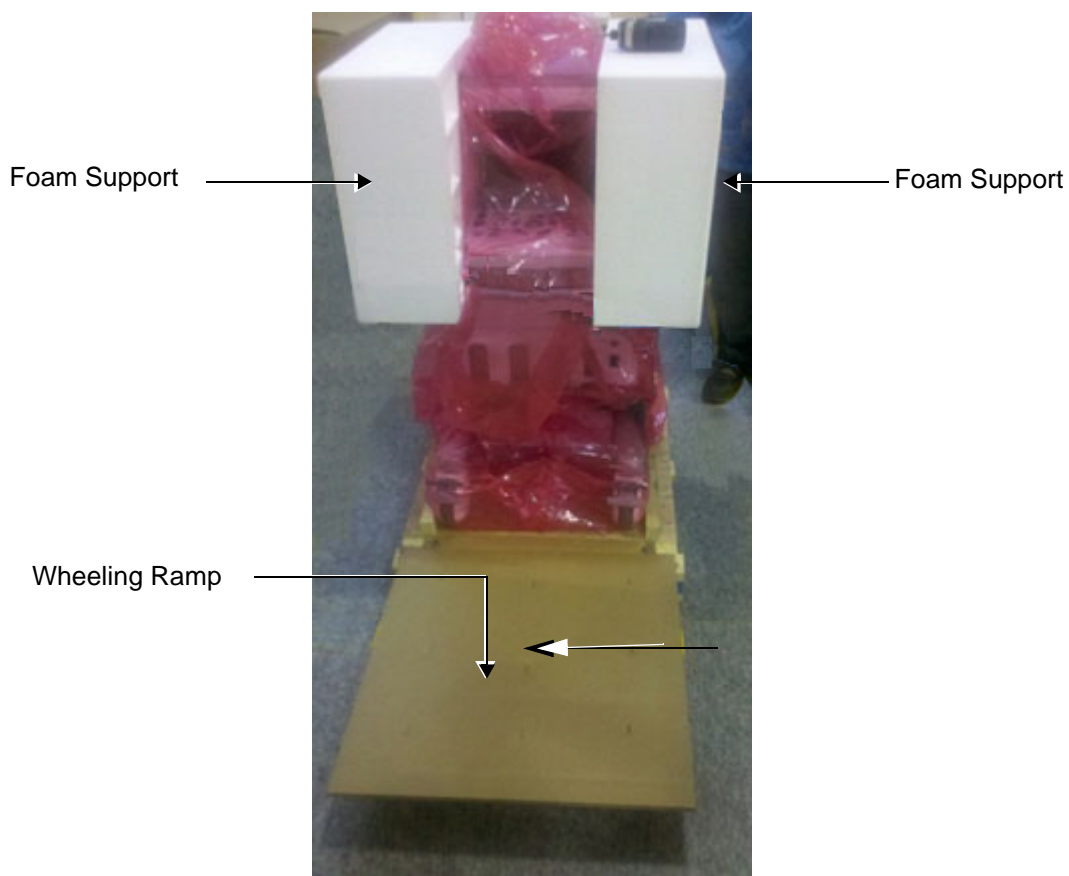

Figure 3-13 Wheeling Ramp in Unloading Position for Scanner Removal
6.) Lower the wheeling ramp into the unloading position, as shown in Figure 3-13 on page 3-11.
- 8.) Remove the two screws that secure the console holder, then remove the holder (Figure 3-13).